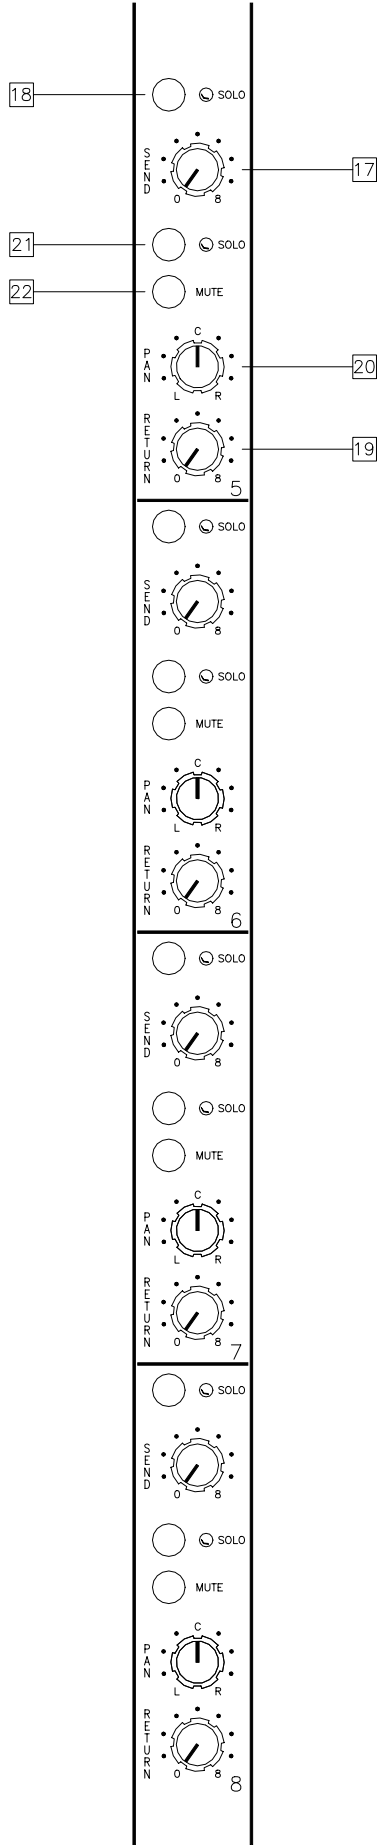

Figure 4. Effects Send and Return Channel
*Refer to Figure 4 for location of items 17 thru 22.*